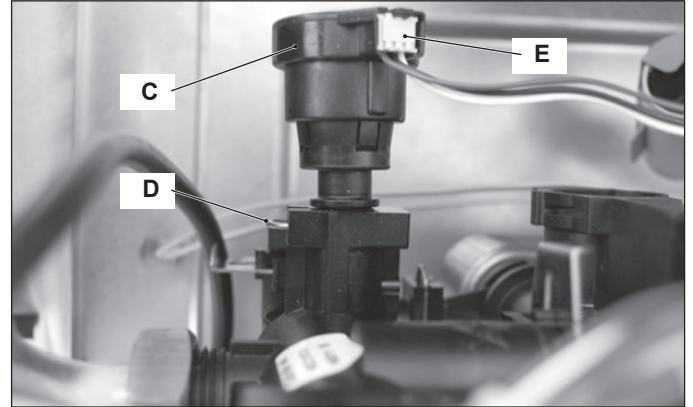

Figure 12.3
- 2 Remove the fixing spring "D" (Figure 12.3) and remove the primary circuit pressure switch "C".
- 3 Disconnect the connectors "E" (Figure 12.3).